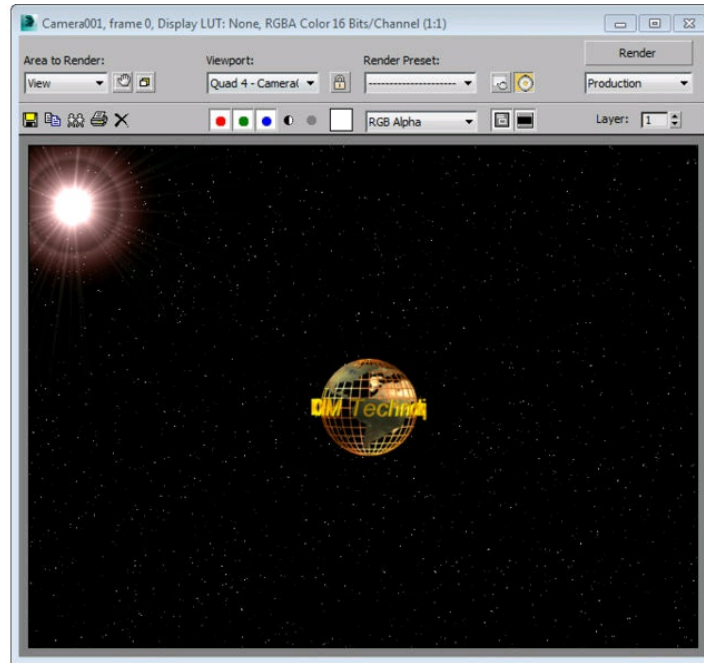

Figure 14-54 The effect of the omni light displayed at rendering
16. Close the **Environment and Effects** dialog box and render the Camera001 viewport; the omni light is displayed, refer to Figure 14-54.